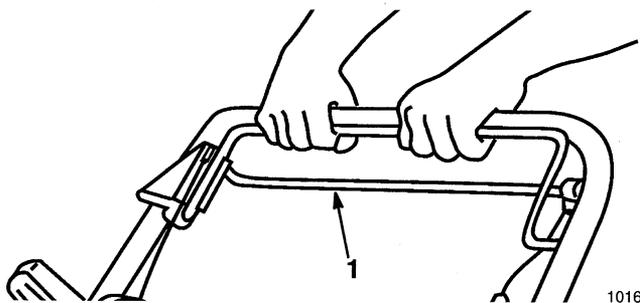

Figure 16
2. To disengage self-propelled drive, release self-propelled bail (Fig. 16).